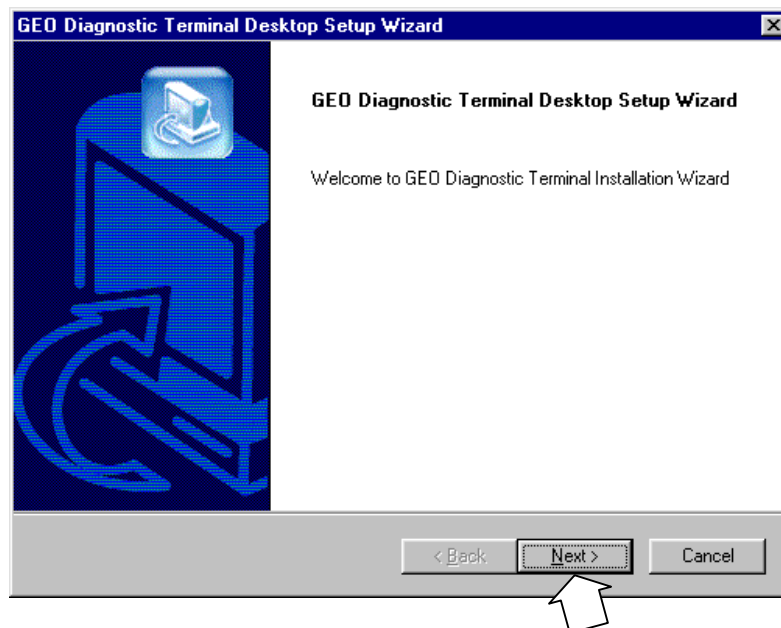

Figure 2-1
3. The “GEO Diagnostic Terminal Installation Wizard” window is displayed (figure 2-1).